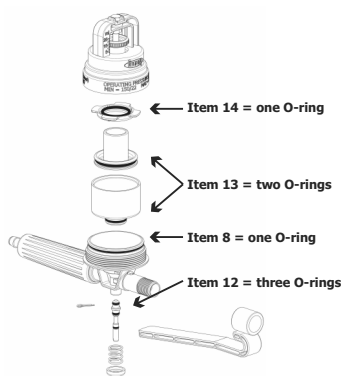

Figure 2
1st Figure 1B: Remove the operating lever (item 4) in order to remove the spring (item 5) and then remove the doser needle that contains three O-rings (item 12). **2nd** Once this is done, unscrew the top cover (Figure 1A), detach items 14, 13, 12 and 8, giving you access for cleaning the O-rings that are attached to these items (Figure 2). **3rd** Wash in soapy water, all disassembled components, rubbing the O-rings lightly with soft a sponge; **4th** Then dry them, lubricate them with light vehicle oil, and only then reassemble and store your doser in a cool place, away from any dust..